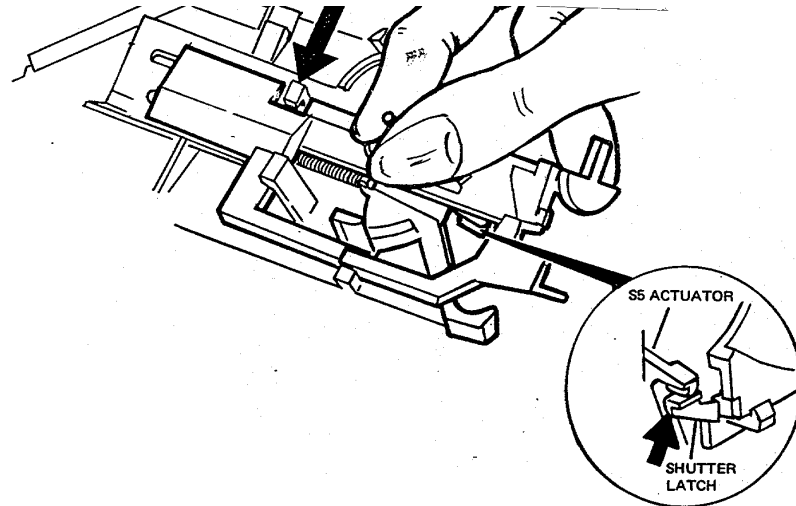

Fig. 45 Replacing Actuator and Slider Assembly
55. Install the Slider Assembly over the pivot on the housing (Fig. 45). Be sure the tip of the S5 Actuator is over the Shutter Latch (see Fig. 45).